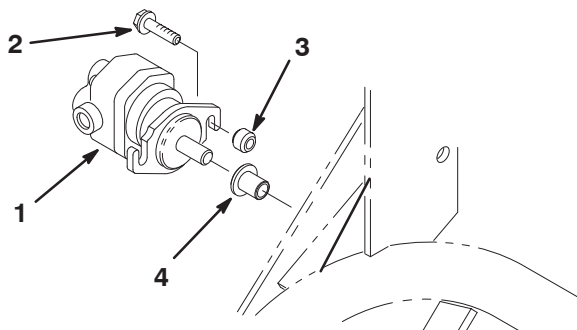

Figure 10
- B. Insert the splined shaft of the reel motor into the storage tube on the frame (Fig. 10).
- C. Using the reel motor flange as a template and positioning it as shown in Figure 10, locate, mark, and drill a 0.344 in. diameter hole on the scribed line.